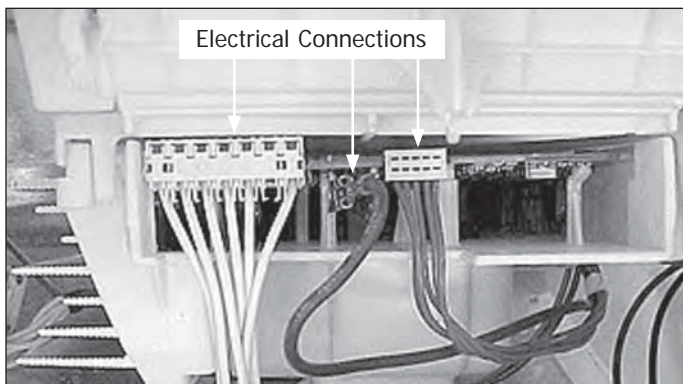

Figure 4-93.
6. Disconnect the (2) plugs & the ground wire and remove the speed control assembly from the washer. (See Figure 4-93)